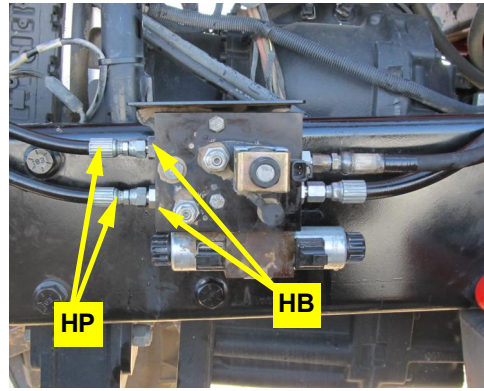

Figure 7b: Steering hoses connected at hydraulic steering block
- b. Connect steering hoses **HP** to adapter fittings **HB** in the **A** and **B** ports on the hydraulic steering block (Figure 7b).